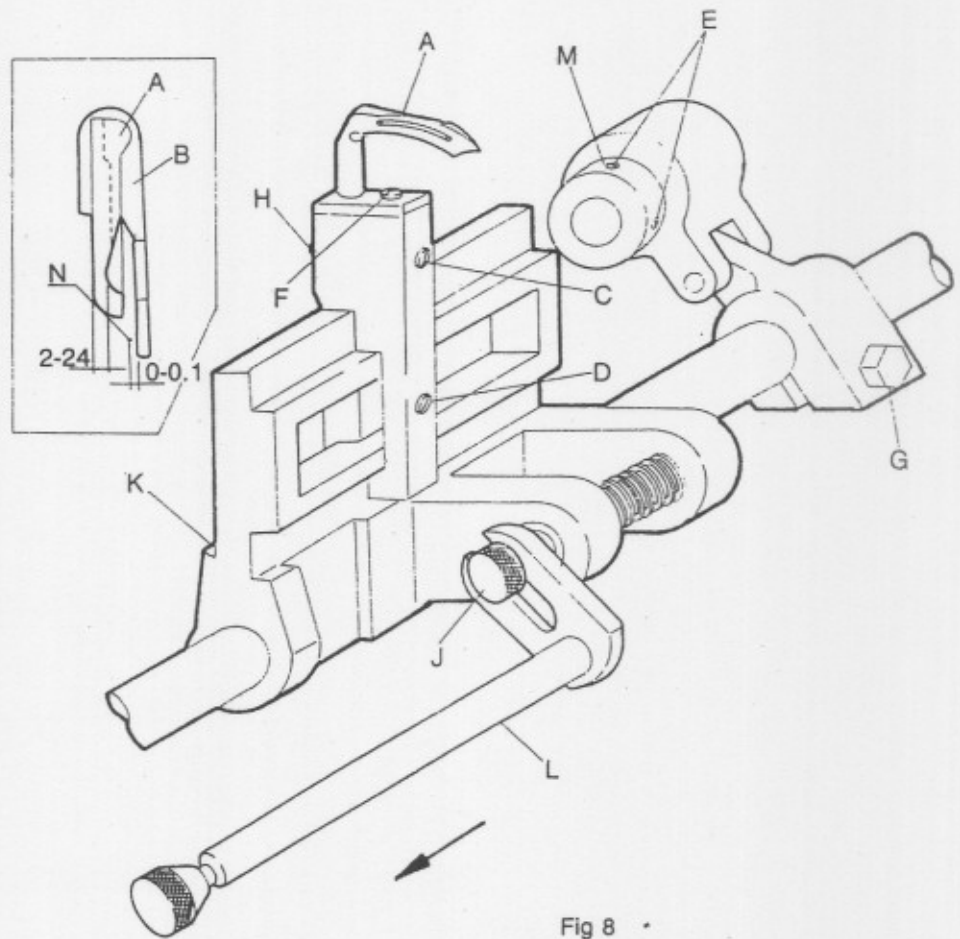

Fig 8
2. Please loosen the looper front and rear eccentric screw E in Fig. 8.
3. When the looper front and rear eccentric M in Fig. 8. is moved to counterclockwise, the synchronization of looper becomes faster, and is done to clockwise, the synchronization of looper becomes slower.
4. Turning the pulley, the correct synchronization of looper is selected, please tighten the screw E in Fig. 8.
The adjustment of needle guard against the needle bar stroke. It is the suitable distance 0-0.1mm as indicated in Fig. 8. As for the adjustment, please do as follows.
1. Loosen the needle guard screw F in Fig. 8.
2. If the distance of needle guard becomes 0-0.1mm, please tighten the screw F in Fig. 8.
1. Loosen the looper screw C in Fig. 8.
2. Rotating the pulley, when the clearance of needle and looper becomes 0.1mm, and then please tighten the looper screw C in Fig. 8.